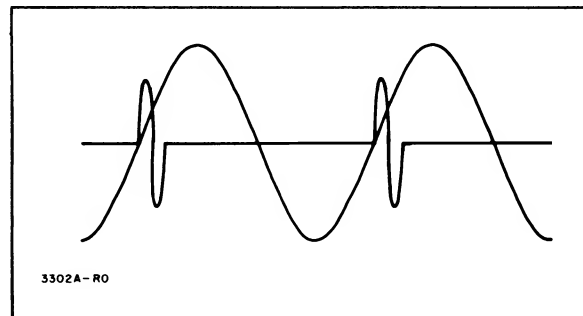

Figure 5-2. Single Cycle Phase Relationship
- h. Check the 3300A output for a single cycle starting at approximately the zero reference of the sine wave on the positive slope. Vary starting and stopping phase with the START/STOP PHASE control and set the 3300A output cycle to begin at 0° phase. (See Figure 5-2.)